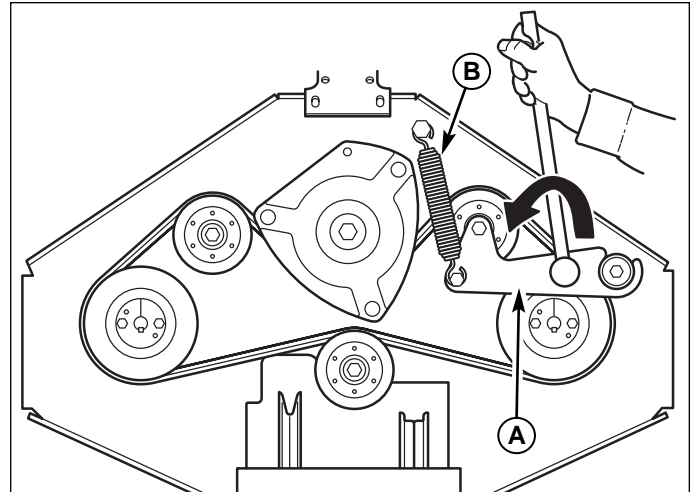

Figure 47. Pump Belt Removal & Replacement
3. Using a 1/2" breaker bar, place the square end in the square hole located in the middle of the idler arm (A, Figures 47). Carefully rotate the breaker bar COUNTER-CLOCKWISE, which will relieve the tension on the belts exerted from the idler arm.
6. Unhook the spring (B) from the anchor bolt on the idler arm.
4. Carefully rotate the idler arm with the breaker bar counter-clockwise (see Figure 47). While holding the breaker bar firmly, install the belts in the left-hand pump pulley grooves and the two stationary idler pulleys grooves.